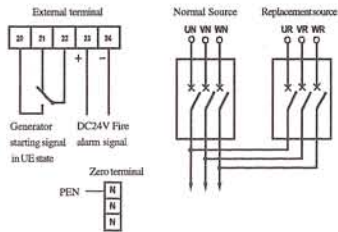
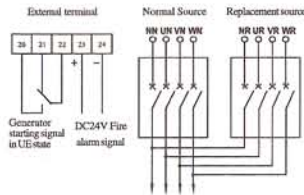

Fig.5 Three Poles ATNS with B type Controller
Fig.6 Four Poles ATNS with B type Controller
- For ATNS with B type controller, a group of float Contact (terminal 20,21,22) is provided to start generator, you can connect It into generator start circuit. A fire alarm signal input terminal (23,24) is also provided , when a DC24V fire alarm signal input into the terminal, the ATNS will transfer to OFF position, and cut power supply of load. you can use these external signal according Fig.5-Fig.6